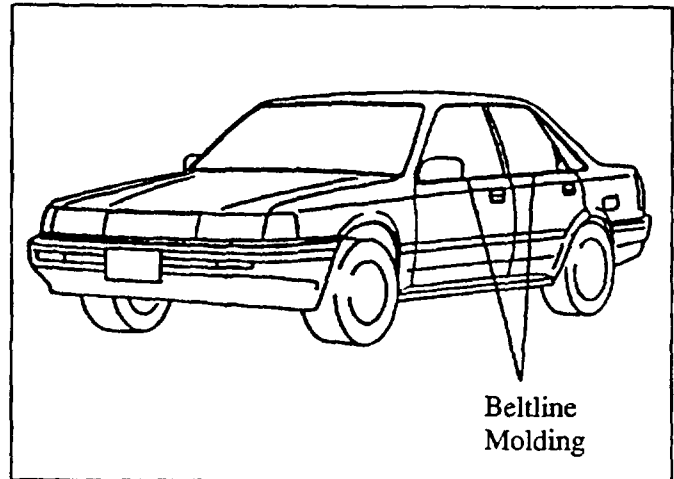

Figure 1: Beltline Molding Location
5. With the door closed, watch for water leaks during hose test. Have an assistant slowly direct the water stream up from the bottom portion of the door-to-fender seam, then up the "A" pillar to the top of the door and around the windshield. Next, have the assistant slowly direct water along the window beltline molding (if the vehicle is a four door, perform this test on both the front and rear doors.) **Figures 1 and 2.**